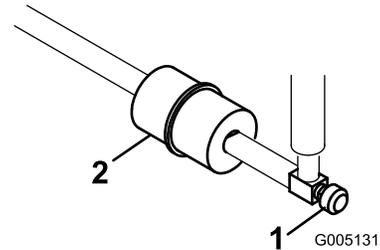

Figure 29
The in-line fuel filter is in the fuel line between the fuel tank and carburetor (Figure 29).
- Close the fuel-shutoff valve (Figure 29).
- Place a drain pan under the filter, loosen the hose clamp on the carburetor side of filter, and remove the fuel line from the filter (Figure 29).
- Loosen the other hose clamp and remove the filter (Figure 29).